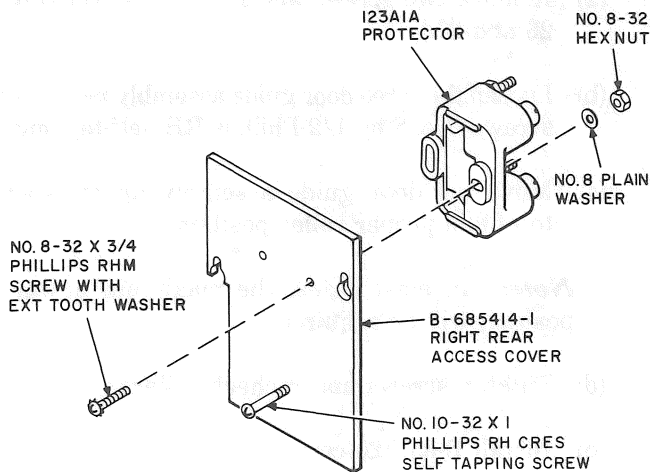

Fig. 24—Assembly of 123A1A Protector on Right Rear Access Cover
- 4.21 To replace old stationary access cover with new detachable access cover (Fig. 24), perform following operations.
- (e) Install protector on new access cover per Fig. 24 using hardware retained in (d).
- (f) Install a 10-32 by 1 Phillips RH CRES self tapping screw per Fig. 24. This screw serves as a handle.